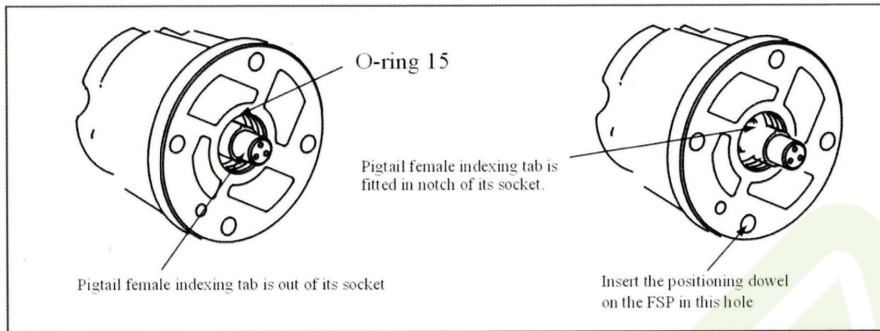

Figure 5: Verifying Pigtail's Female Connector Is Seated Properly
3. Align the FSP positioning dowel and four screw holes with the proper holes in the discharge head and push the FSP into position using hand force only (see Figure 5). The FSP should be snug against the discharge head prior to installing the FSP retaining bolts.